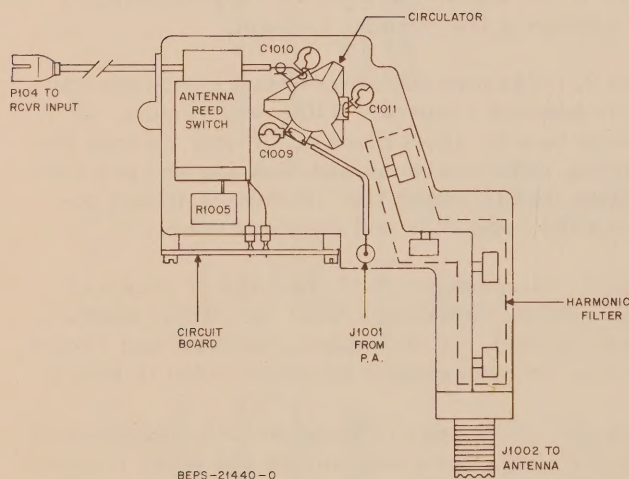

Figure 37.
(1) Tests to Assure Antenna Switch Network is Faulty
Step 1. Disable the transmitter by (1) removing the red lead fuse (A+ line), (2) removing the exciter filter input(s) at J301 or J401 or both, or (3) removing the channel element.
Step 6. Check the dc resistance across R1005 (see Figure 37); it should be 50-ohms $\pm 10\%$. Energize the relay (white wire to A- yellow wire to A+) the resistance should drop to a short circuit. If it does not, check for a poor connection to the resistor. If the connection is good the relay should be replaced.
(2) Removal of Reed Switch
Step 4. Unsolder the two wires going to the feed-through capacitors (see Figure 37).
Step 3. Solder the connecting wires to the feed-through capacitors and the 50-ohm load. Also solder the shielded coax cable to the circulator in place (see Figure 37).
(4) Antenna Switch Network Retuning
Step 5. Adjust variable capacitor C1009 (see Figure 37) on the transmitter leg of the circulator for minimum indication on the rf voltmeter.